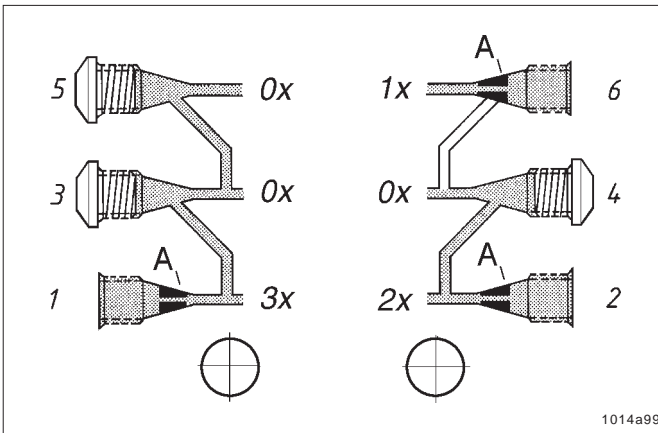

Fig.1 - Single double and tripple lubricant output
- Lubricant from a plugged outlet is redirected to the next outlet on the same side of the SSV divider block in descending numerical order (see Fig.1). For instance plugging outlets 5 and 3 will triple the amount of lubricant at outlet 1.
- \* Install a closure plug in each outlet port hole which is not required, see Fig. 1 or 4.
- \* Install one complete check valve in each outlet port hole which will be used, see Fig. 1 and 4.